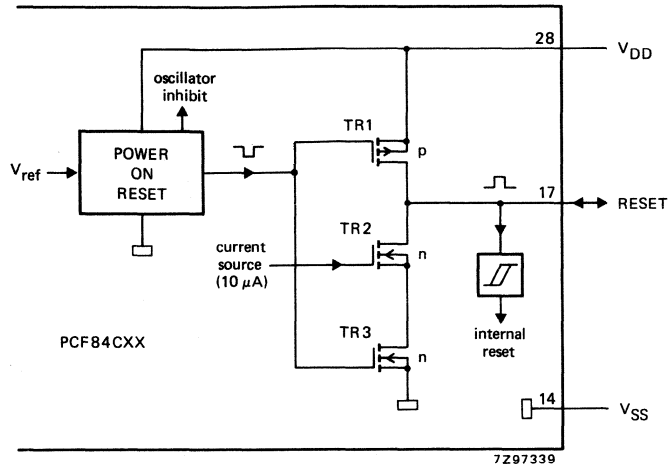

Fig. 23 Power-on-reset configuration.
1. If  $V_{DD}$  can be switched with a fast rise time i.e.  $V_{DD}$  reaches its minimum operating value (corresponding to the selected oscillator frequency) before the RESET signal ( $t_D$ ) has finished, then no extra components are required (see Fig. 23 and 24). Note that the first instruction is executed after the oscillator start-up time plus 1866 clock periods have elapsed.